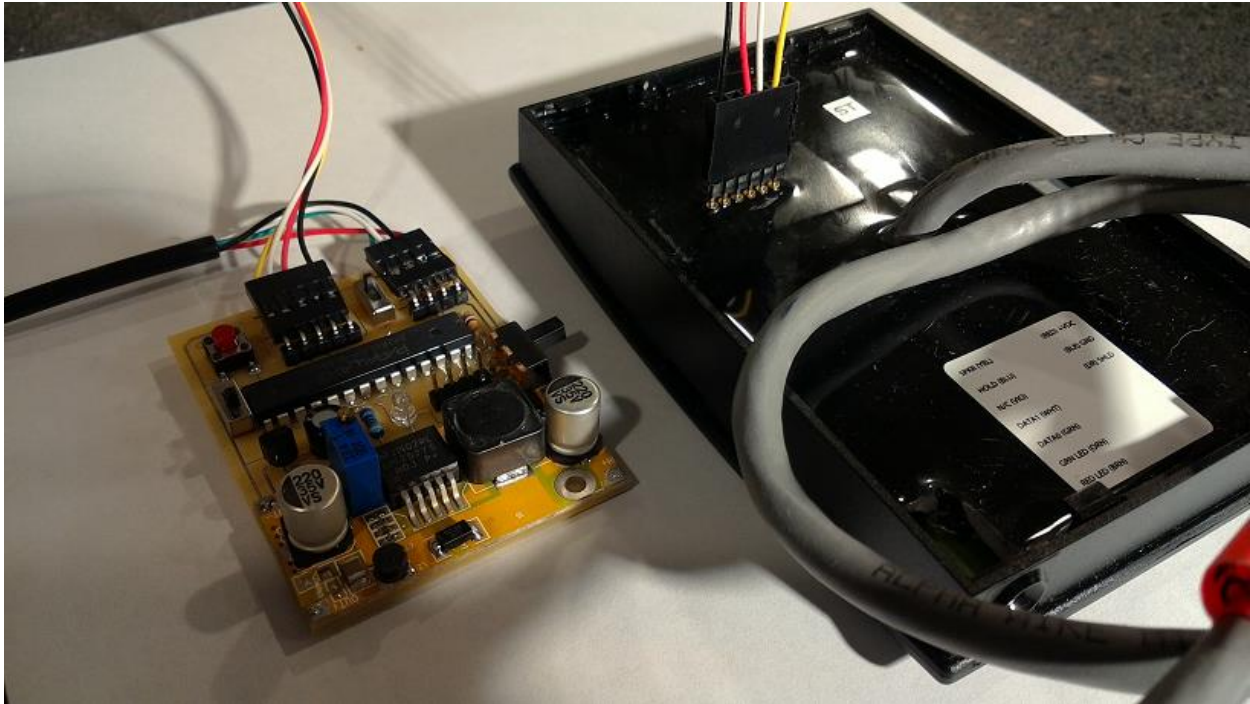

Figure 2. ICSP Connection to R40 Reader (Black Vss/Gnd on outside pin)
2. Attach the PIC ICSP Debug interface cable between the RAM Dumper unit and the iclass reader target hardware. Note that the ICSP debug interface signals on the iclass readers are **NOT** always arranged the same. A connection to an R40 reader is depicted in Figure 2.